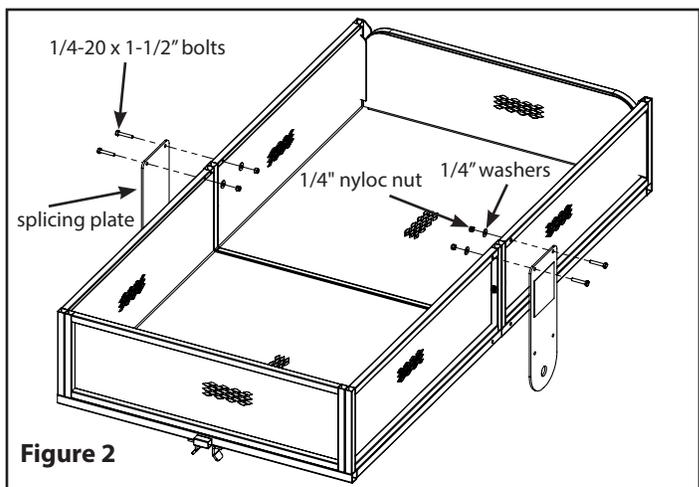

Figure 2
2. Attach the splicing plates (300705) on both sides using (4) 1/4-20 x 1-1/2" bolts, (4) nyloc nuts, and (4) 1/4" washers in the top holes only. **SEE FIGURE 2**